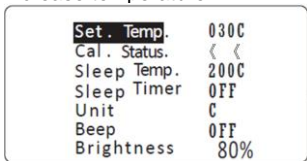

Fig.9
3.5 When Cal. status display "< <" (see Fig 9.) , it means "Real Temp." has calibrated to minimum temperature, can not decrease anymore, but it can increase temperature.